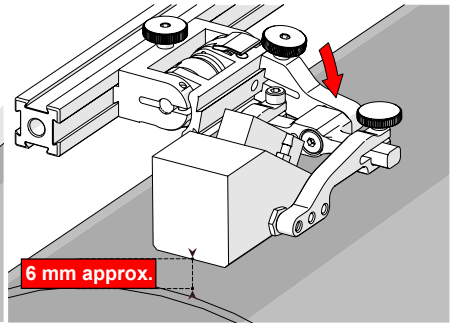

Fig. 196 - Lower to scanning surface
2. Push the probe holder yoke down toward inspection surface until the wedge is approximately 6 mm ( $\frac{1}{4}$  in) above the inspection surface (Fig. 196).